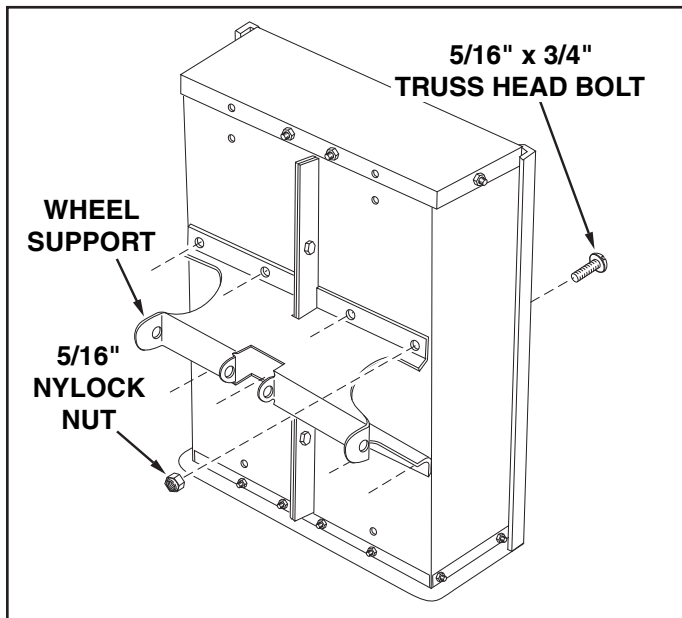

FIGURE 5
10. Assemble the wheel support to the cart using eight 5/16" x 3/4" truss head bolts and 5/16" nylock nuts as shown in figure 5. Heads of bolts go on the inside of cart. **Tighten**.